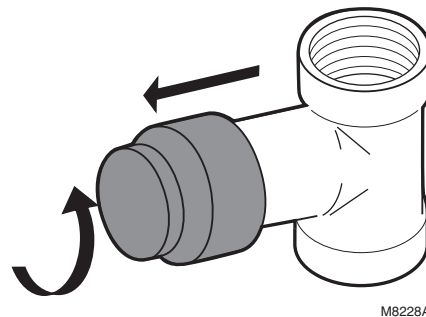
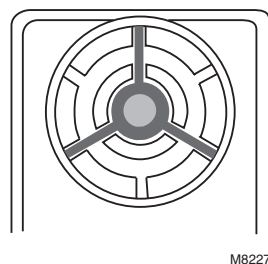

Fig. 4. Removing protective cover from valve.
Fig. 5. Valve position indicator (M6410 shown).
To mount the M6410A or M7410F Actuator, refer to Fig. 4 through 6. Fig. 5 shows the valve position indicator.
1. Remove the protective cover from the valve (Fig. 4).